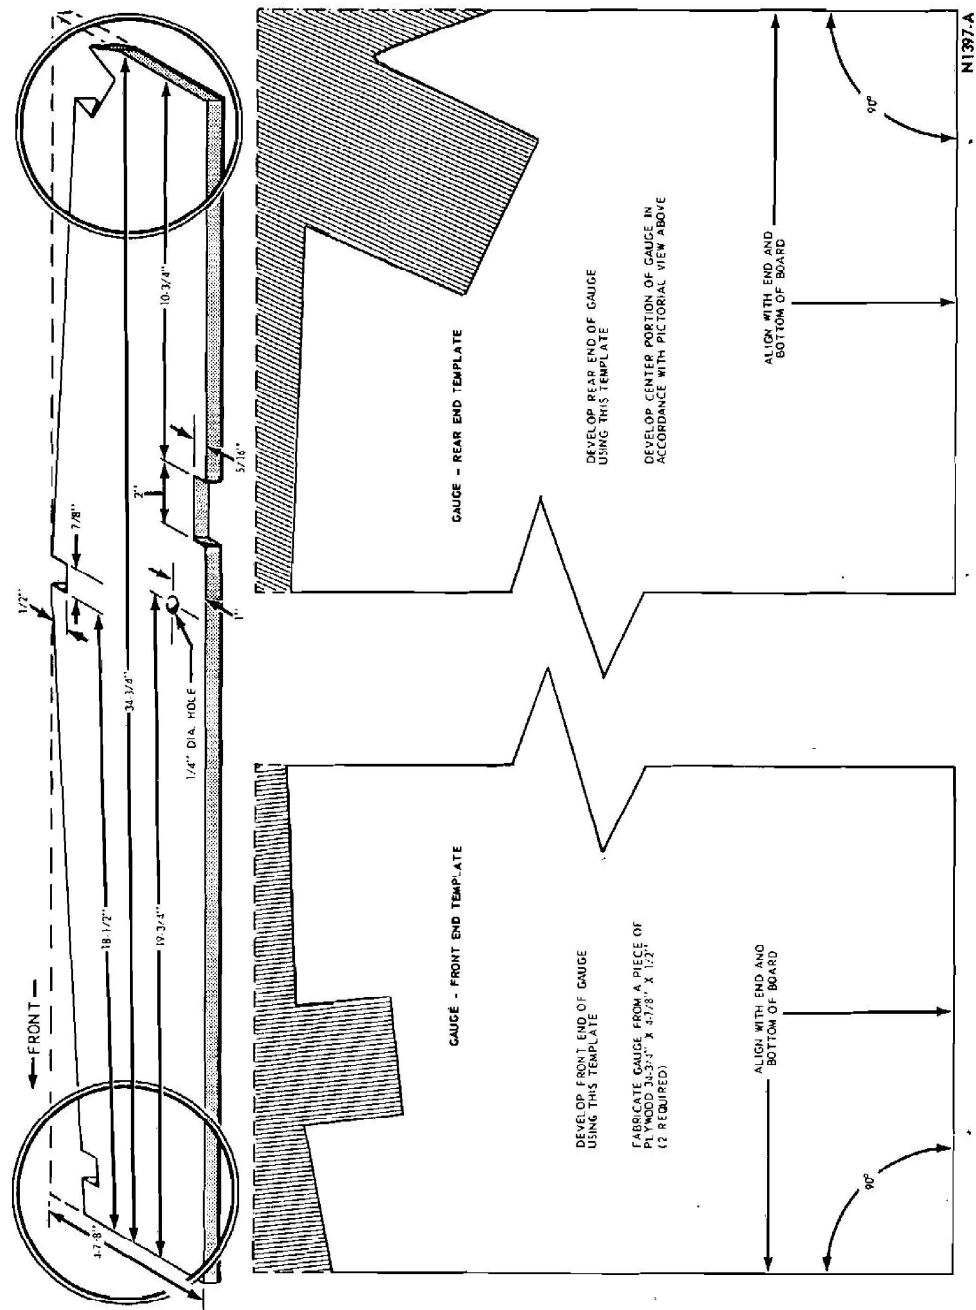

FIG. 12—Bow Locating Gauge Fabrication
2. Fabricate two bow locating gauges to the dimensions shown in Fig. 12.